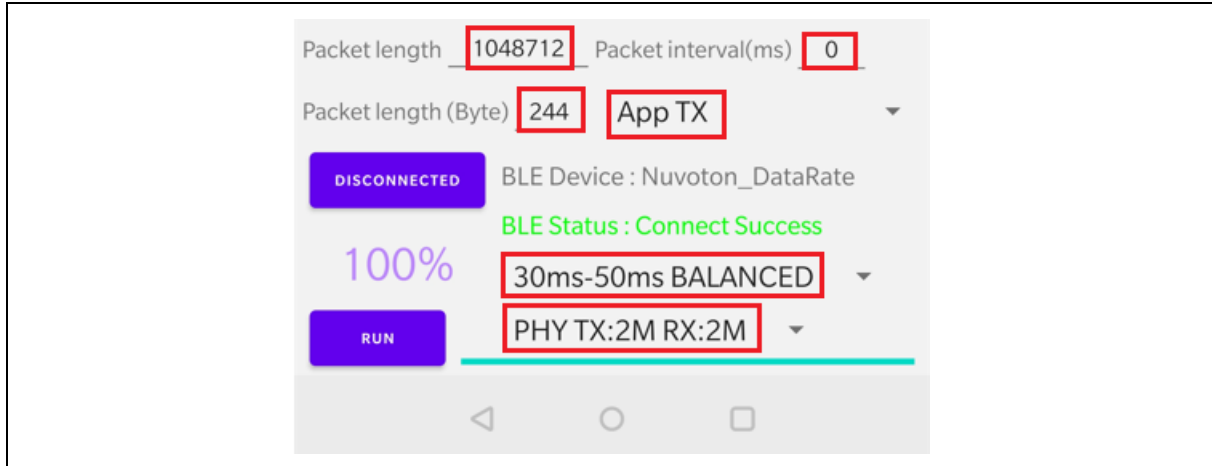

Figure 4-21 NuBLE DataRate Settings
2. Open NuBLE App and change to the DataRate tab, and you can see the following screen, as shown in Figure 4-21. For the performance measurement, changing a setting may cause a different test result. There are some factors that can get better performance, such as larger packet length, lower packet interval and higher PHY mode.